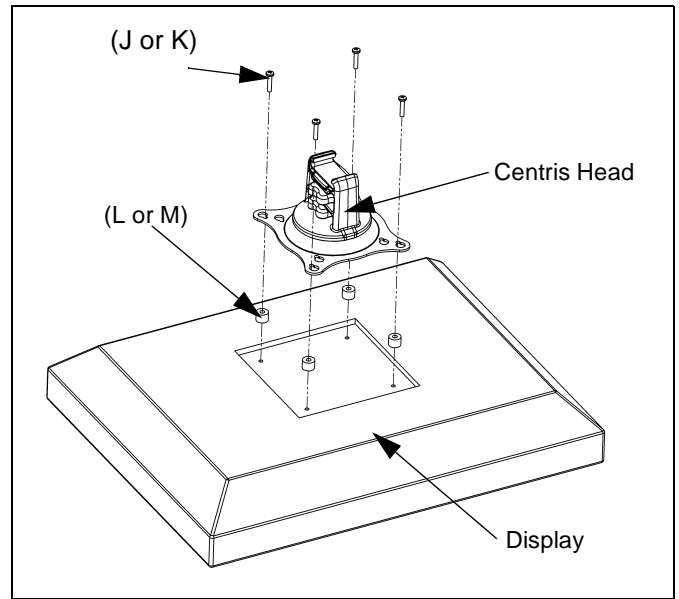

Figure 8
4. Place four 3/8" or 3/4" nylon spacers (L or M) over four mounting holes in display back (See Figure 8).
5. Align Centris head mounting holes with four nylon spacers (See Figure 8).
6. Secure Centris head to display using four M4 x 20mm Phillips pan head screws (J) [if using 3/8" (L) spacers], or four M4 x 30mm Phillips pan head screws (K) [if using 3/4" (M) spacers] (See Figure 8).